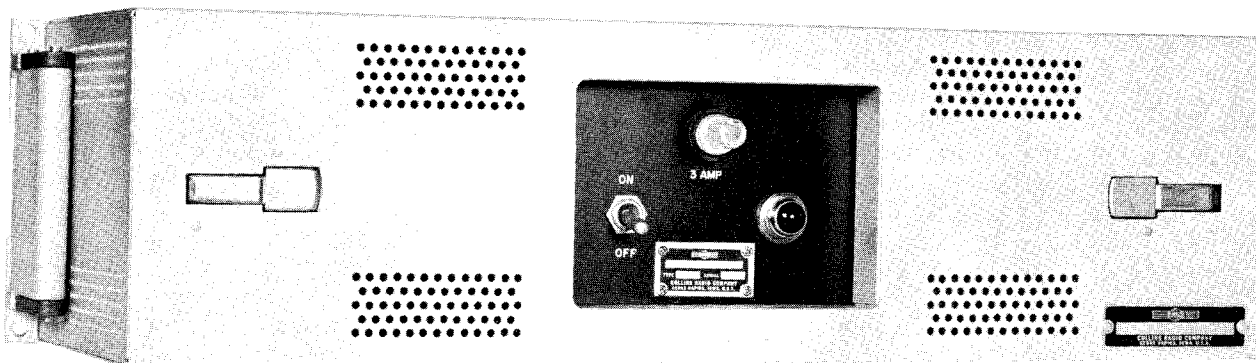

Figure 1-10. Power Supply PP-2154/U
i. POWER SUPPLY PP-2154/U. - (Refer to figure 1-10.) The PP-2054/U is the low-voltage power supply. The unit can be operated on a 115- or 230-volt, 60-cps, single-phase source; 185 watts of input power is required. The unit contains no tubes, and all voltage rectifiers operate from a common power transformer. The output voltages are +250 volts, 37 ma, filtered; +130 volts, 315 ma, filtered; +28 volts, 1.5 amp, unfiltered; +28 volts, 580 ma, semifiltered; +28 volts, 180 ma, regulated; -90 volts, 6 ma, filtered; 12.6 volts ac (ct), 5.2 amp; and 35 volts ac, 500 ma.